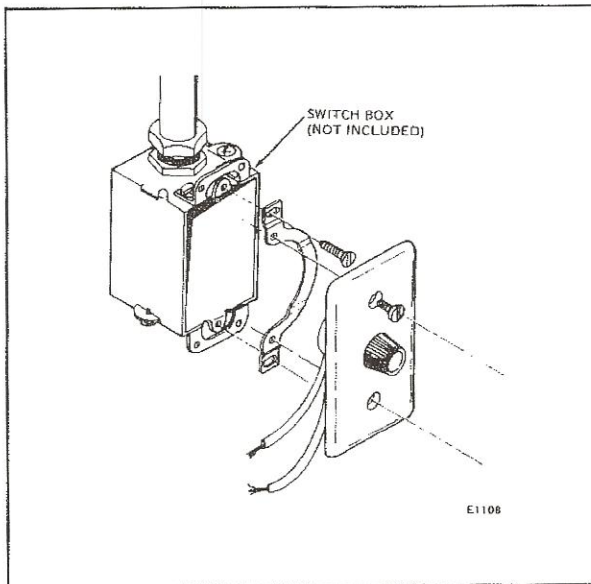

FIG. 3—INSTALLING THE S963A POTENTIOMETER.
1. Install a standard 2 x 4 in. [51 x 102 mm] outlet box at the location selected for the S963B. The box may be surface mounted or recessed for flush mounting of the control. The box must be at least 1-3/4 in. [45 mm] deep. See Fig. 3.